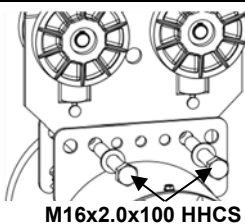
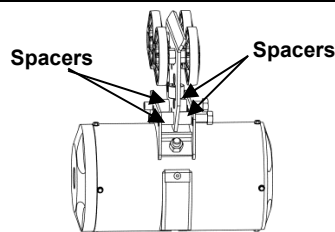

Figure 2-12
Figure 2-13
- Step 1. Slide two (2) M16 x 2.0 x 100 mm HHCS with M16 washers through holes on one of the plates on the can bracket as shown below (See Figure 2-12).
- Step 2. Slide one (1) 5/8 x 1in.[25mm] spacer on each bolt and slide bolts through mounting holes on trolley.
- Step 3. Install two (2) remaining spacers, one (1) per bolt, between trolley and second plate on the can bracket as shown (See Figure 2-13).